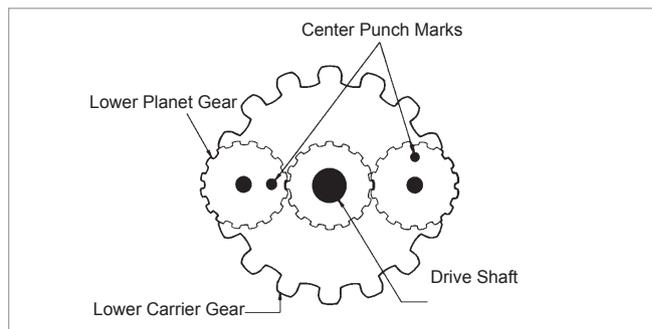

Figure 3
3. When assembling the two lower planet gears to the lower carrier gear (Figure 3), note that each gear has a center punch mark at one of the teeth. Point the marked tooth of one gear at the drive shaft and the other at a 90° angle to the drive shaft. This is necessary to allow the sun gear assembly to mesh with the planet gears.